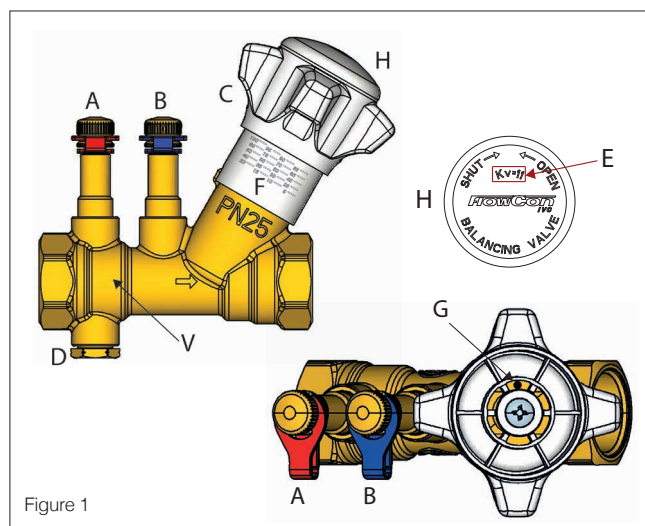
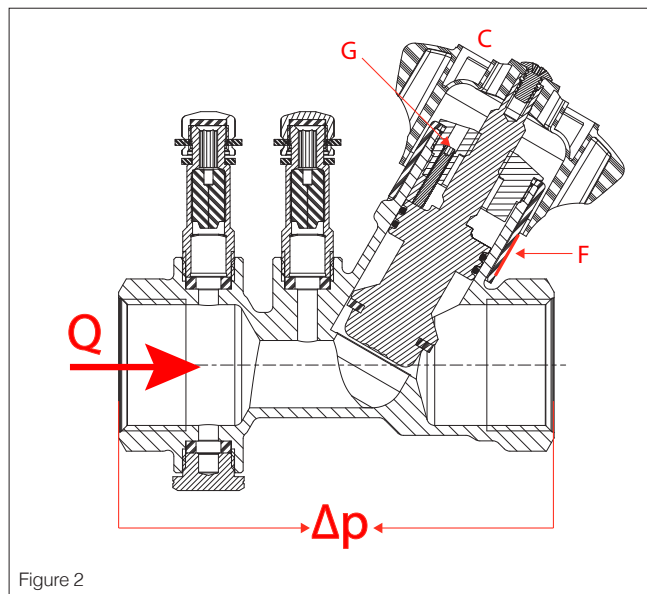

Figure 1
Figure 2
This mechanism works by limiting the handle stroke (ref. C - fig. 2) through a locking screw (ref. G - fig. 2). Operationally the pre-regulation shall be effected as follows:
- Make the regulation of the FSB valve by means of the handle (ref. C - fig. 2), on the regulation scale (ref. F - fig. 1);
- Screw clockwise until it stops the locking screw of the pre-regulation (ref. G - fig. 2) by using an allen key of: